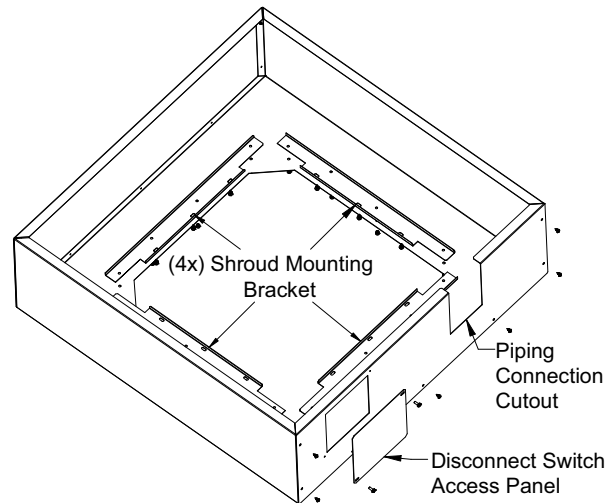
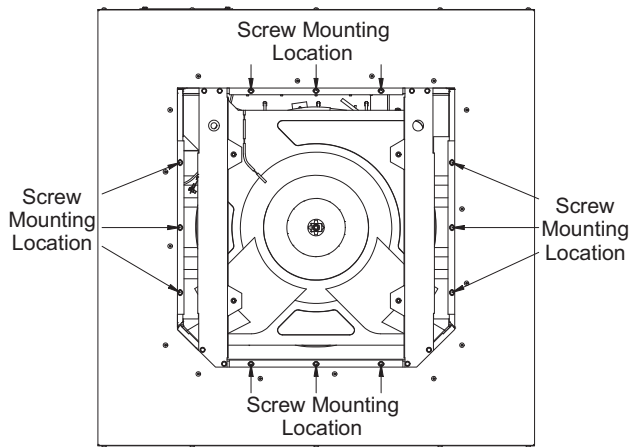
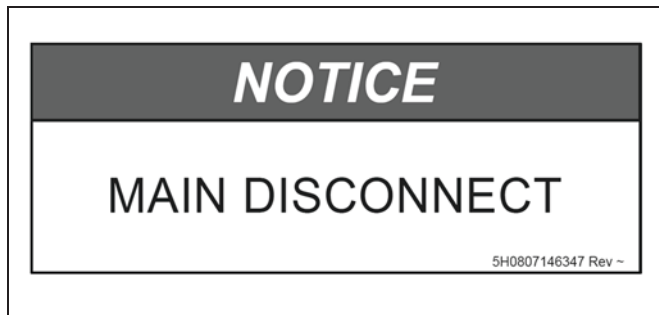

Fig. 62 — Shroud Components
Fig. 63 — Screw Mounting Locations (Bottom View)
Fig. 68 — Main Disconnect Label
4. On the unit, identify the side where the piping connections and electrical box are located. On the shroud, there is an open cutout for the piping connections and a removable panel for disconnect switch access (if applicable). See Fig. 62. The piping and disconnect switch access side of the shroud needs to be match the unit's piping/electrical side.
6. On the shroud, there are 4x mounting brackets (See Fig. 62) with screw clearance holes. Match up the clearance holes on the mounting brackets to the bite screw holes located on the unit casing. See Fig. 63.
9. If the unit has a factory installed disconnect, place the main disconnect label (See Fig. 68) on the removable disconnect switch access panel (See Fig. 62 and 67). If the unit does not have a factory installed disconnect switch, the main disconnect label can be discarded.